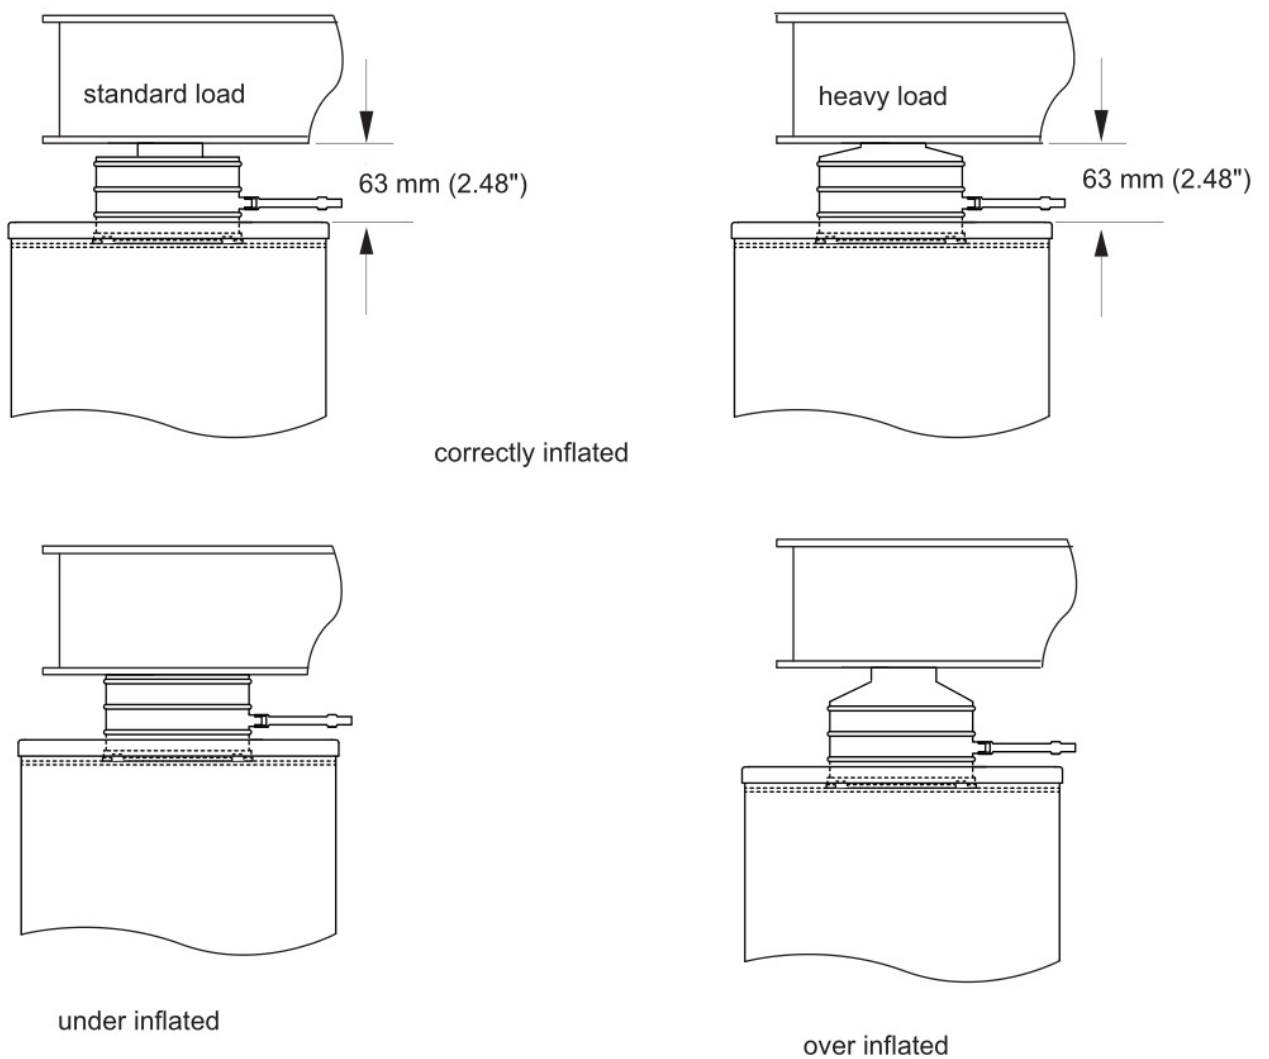

Fig. 3.4 Correct inflation of passive isolators
5) Repeat items (2) to (4) until all four isolators have a gap of 63 mm (2.48") between the top of the cylinder and the underside of the table – see Fig. 3.4.